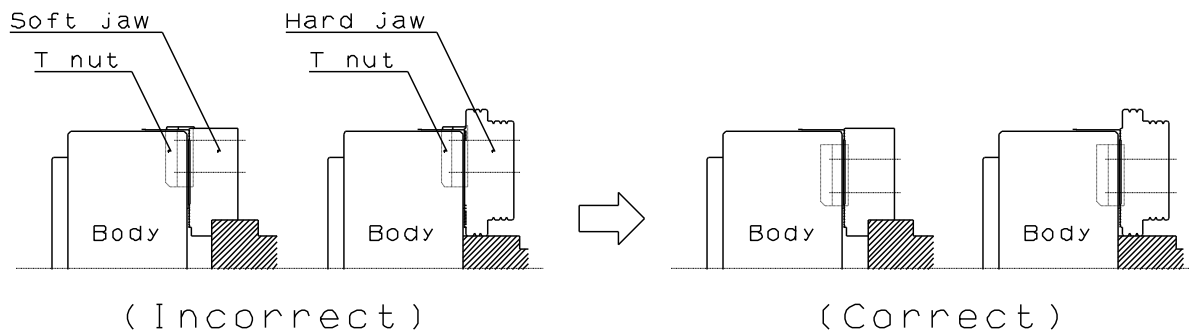

Fig.12
- Use the T nut so that it does not come out from the master jaw. (Refer to Fig.12)